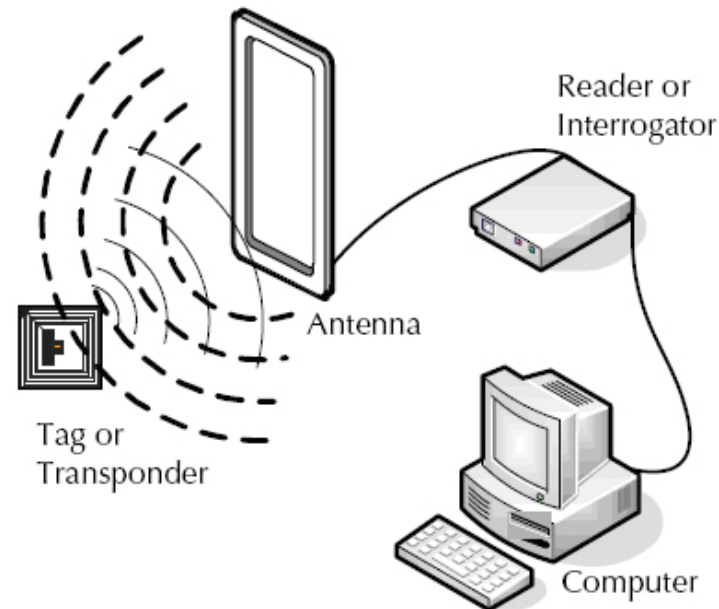

Figure 1. A simple drawing of an RFID setup.
- All RFID systems require readers, antennas, and tags in order to function (see Figure 1 below). The selection of ancillary items such as cables, mounting brackets, and GPIO devices will greatly impact the effectiveness of an RFID system.